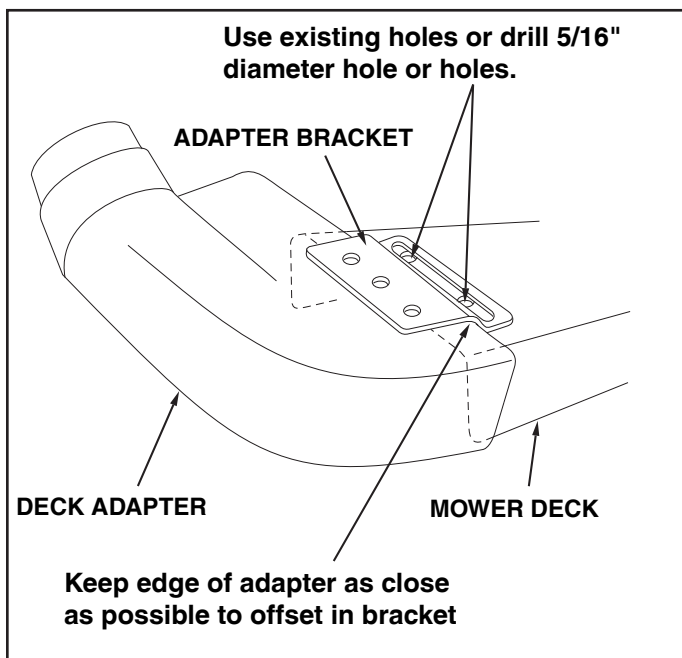

FIGURE 26
5. Holding the adapter bracket and the deck adapter together, position the deck adapter on the mower deck. Keeping the edge of deck adapter as close as possible to the offset in the adapter bracket, see if the slot in the adapter bracket can be aligned with one or two of the deflector holes in your mower deck's discharge opening. If the bracket can not be located correctly using existing holes, it will be necessary to drill one or two 5/16" diameter holes in the deck. See figure 26.